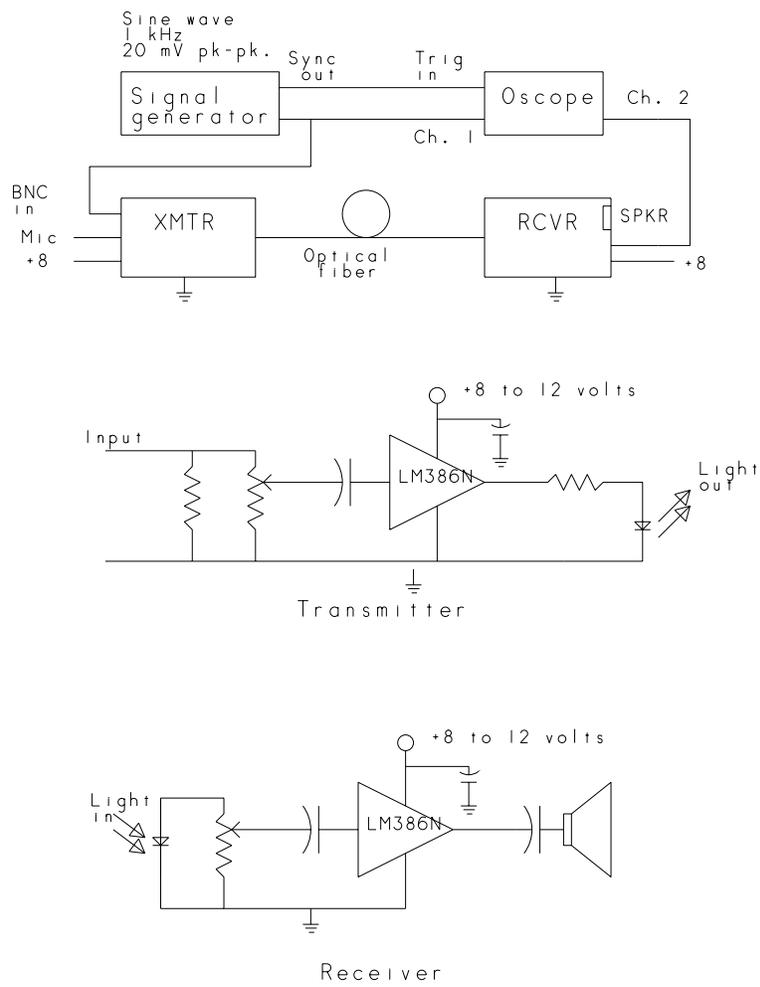

Figure 1: Analog fiber optic link
A simple low power audio demonstration link is shown in Fig. 1. With no input voltage applied to the XMTR, the voltage level out of output of the LM 386 is $1/2$ of V_s . Analog signals with a plus and minus excursion will cause the voltage at this output to vary about $V_s/2$. The current through the LED is desired to be about 60 ma with no signal and to vary from 20 to 100 ma depending on the signal strength and polarity. Assuming $V_s = 8$ volts and $I_{\text{bias}} = 60$ mA, the resistor value of R_3 is chosen from the results of the following calculation :
1. Ensure that the system is set up as in Fig. 1. Familiarize yourself with all meter and test equipment controls.